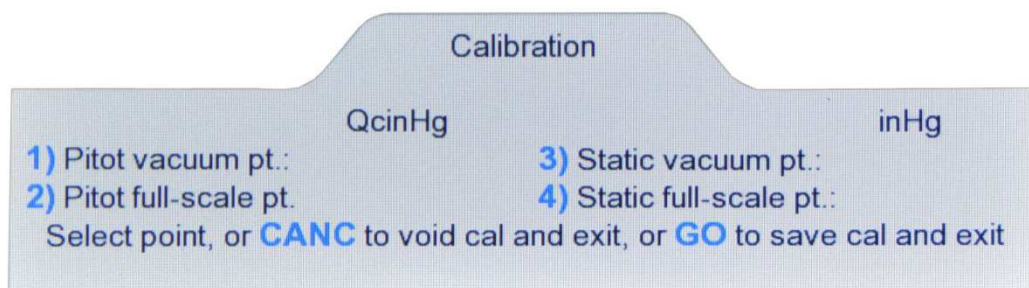

Figure 6.3 : Calibration (Main)
6. Enter '1.600' followed by **ENTER** on the keypad. The highlighted field will be replaced by '1.600'. Press **CLR** to return to the point-selection screen (Figure 6.3). You should see '1.600' on this screen, as the Static vacuum point. This indicates to the 6250 that the absolute pressure on the Static output is currently exactly 1.600 inHg.
9. Enter '0.000' (or simply 0) followed by **ENTER** on the keypad. The highlighted field will be replaced by '0.000'. Press **CLR** to return to the point-selection screen (Figure 6.3). You should see '0.000' on this screen, as the Pitot vacuum point.
12. Enter '15.000' (or simply 15) followed by **ENTER** on the keypad. The highlighted field will be replaced by '15.000'. Press **CLR** to return to the point-selection screen (Figure 6.3). You should see '15.000' on this screen, as the Pitot full-scale point. This indicates to the 6250 that the differential pressure on the Pitot output is currently exactly 15.000 inHg.
15. Enter '32.000' (or simply 32) followed by **ENTER** on the keypad. The highlighted field will be replaced by '32.000'. Press **CLR** to return to the point-selection screen (Figure 6.3). You should see '32.000' on this screen, as the Static full-scale point. This indicates to the 6250 that the absolute pressure on the Static output is currently exactly 32.000 inHg.